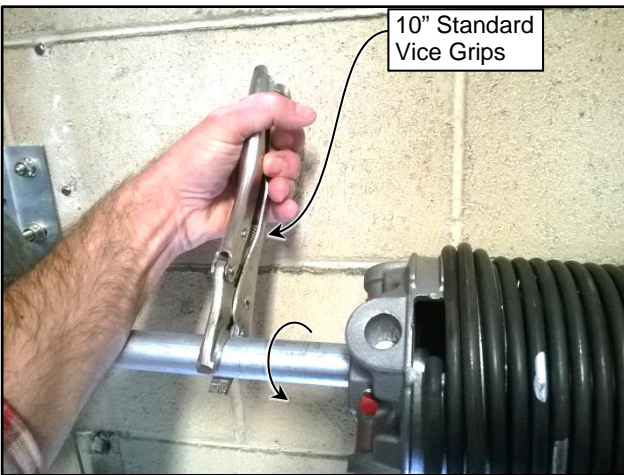

Figure 77
5. Vise grip the shaft as shown to keep the lift cable tight on the drum. The top of the vise grip should be tight against the door wall. This will keep the lift cable snug on the first drum while you install the cable on the other drum and position it in place. It also keeps the shaft from turning and the lift cables from peeling off when you wind the springs. (See Figure 77)